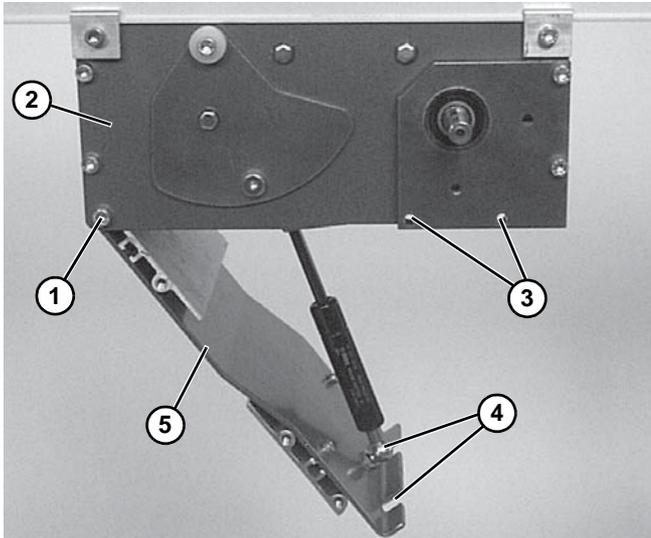

Figure 31
2. Loosen corner screws (Figure 31, item 1) on each side of the drive module (Figure 31, item 2).
3. Remove tension door screws (Figure 31, item 3) on each side of the drive module.
4. Using finger grip holes (Figure 31, item 4), open the tension door (Figure 31, item 5) to release conveyor belt tension.